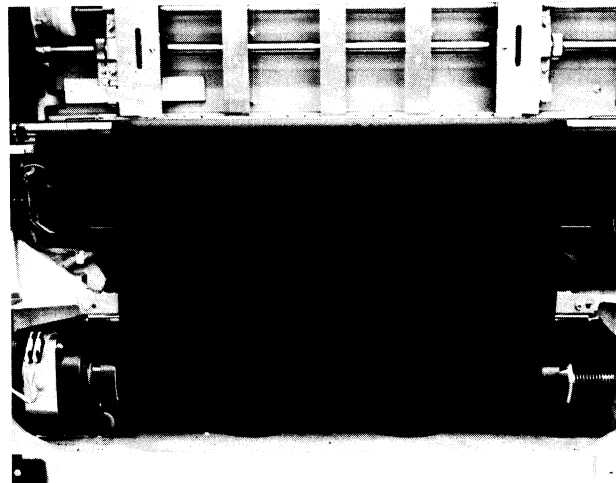

Figure 3-16. Changing Print Ribbon (1)
3. Remove old front ribbon spool (Figure 3-16) and place on cartridge (Figure 3-17).